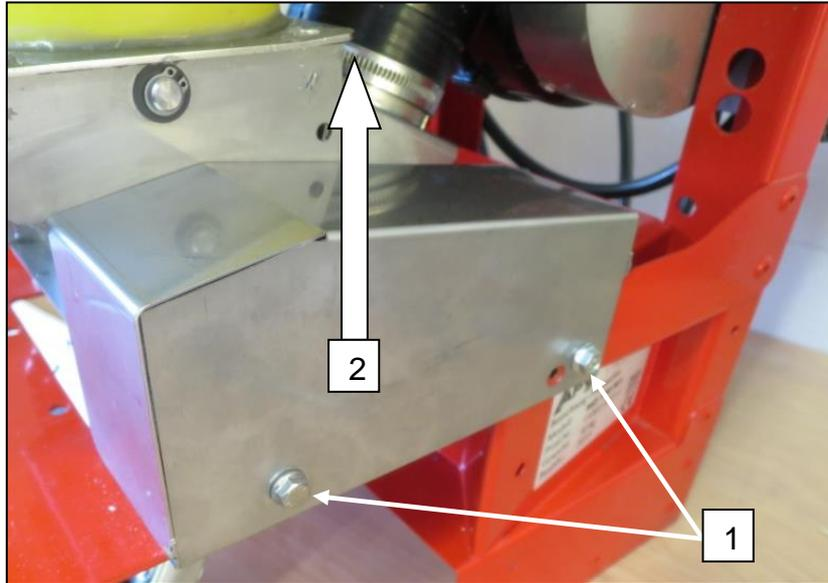

Fig.: 65
- To remove the seeding shaft motor cover, loosen the two bolts **1** marked in Fig.: 65 and pull off the cover towards the top **2**.